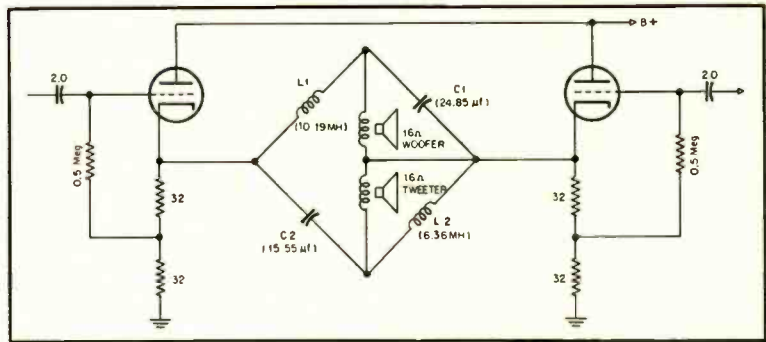
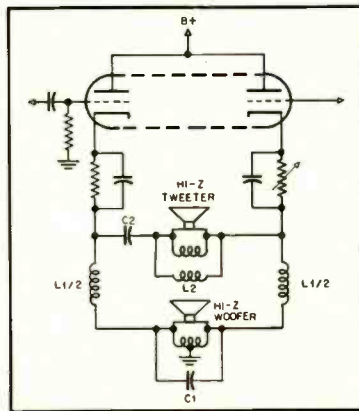

Fig. 8. Possible circuit arrangement for two-way speaker system driven by cathodes of output stage.
Fig. 9. Optional circuit arrangement for two-way speaker and cathode-coupled output stage.
The OTL system shown in Fig. 8 is the one mentioned in the second paragraph of this paper. The audible results were claimed to be superb, though the circuit does not appear to be a very efficient one, to put it mildly. Eight 6AS7's requiring 2000 ma at 200 volts delivered only 6.32 watts into the speaker system. (A single 6AS7 can normally deliver 8 to 11 watts.) Much greater efficiency could, of course, be obtained with high-impedance drivers, and if a center-tapped woofer were available, the circuit of Fig. 8 could be re-arranged as shown in Fig. 9. The values of L and C in the dividing network would of course have to be recalculated. Elaboration of the network for a three-way system would not be difficult. Also, the whole business could be transferred upstairs for plate loading if desired, in which case the woofer center-tap would be connected to B+ instead of to ground. If for any reason center-tapped voice coils are not practical, the circuits suggested in this para-
Fig. 8. Curves of playback equalization: (A) that due to feeding the 500-ohm playback head into a 33-ohm resistor; (B) total equalization obtained with addition of feedback network around first stage.